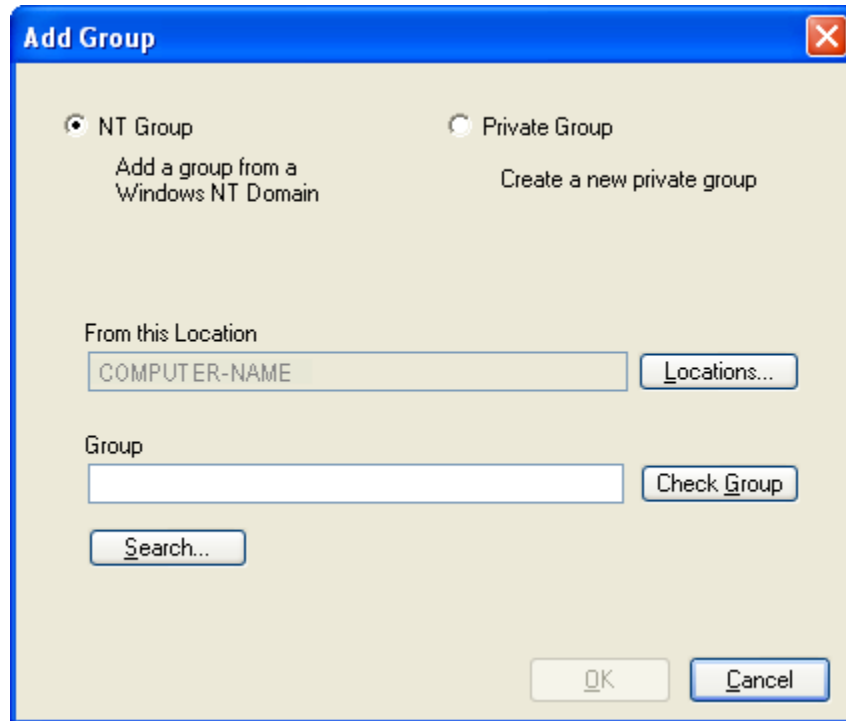

Figure 43 - Add Group Window (NT)
2. The **Add Group** window (Figure 43) appears. The **NT Group** option button is selected by default. This will allow the addition of an NT group from a Windows NT Domain.
2. The **Add Group** window (Figure 43) appears.